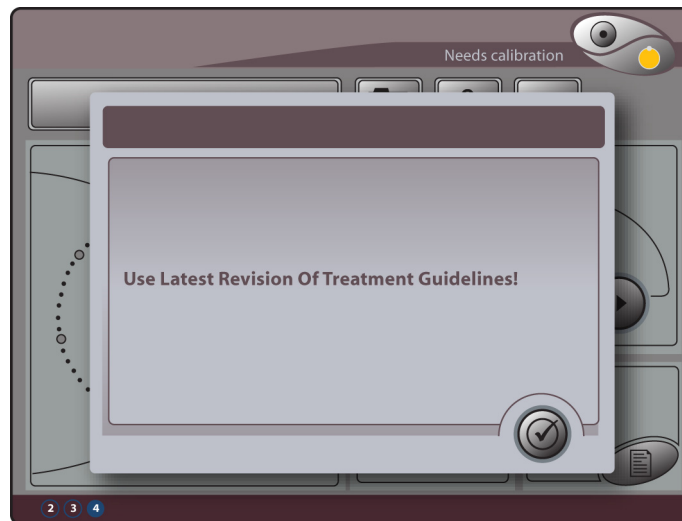

Figure 3-5: Treatment Guidelines Dialog
- The system prompts you to use the latest version of the Treatment Guidelines for information on treating the patient (see **Figure 3-5**). See www.MyCandela.com for the latest version of the guidelines.